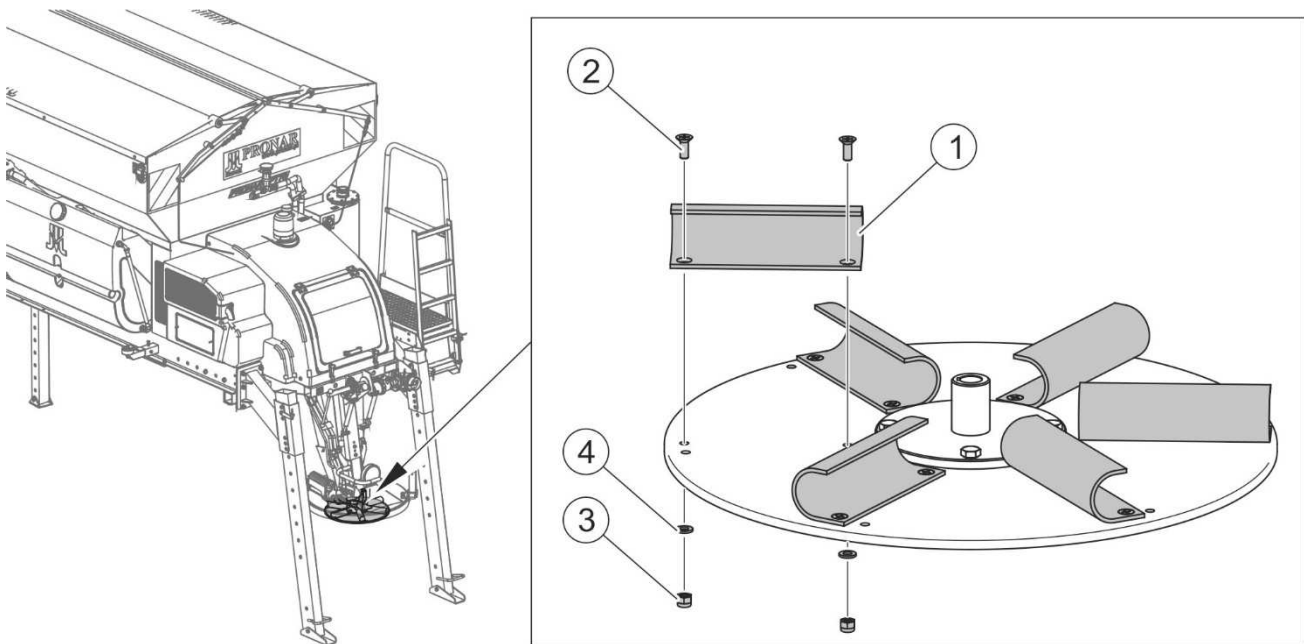

FIGURE 5.14 Replacement of spreading mechanism disc blades
- Undo nuts (3) (FIGURE 5.14),
- Remove bolts (2) and washers (4),
- Replace blades (1) with new ones, check condition of bolts and nuts, if necessary replace (see TABLE 5.4).